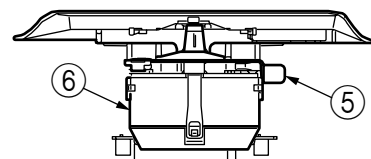

Figure 3.3.2
- (1) Connect the head cable ⑦ securely to the printhead ⑥.
- (2) The head clamp ⑤ must surely be sandwiched between printhead ④ and carriage frame ⑧ as shown Figure 3.3.2.
- (3) Be sure to check the gap between platen and printhead (see 4).
- (4) Be careful not to touch the print head while it is very hot.
- (5) Make sure that there is not any dust or oil on the connector contact section A. If it is found, wipe it off by alcohol.